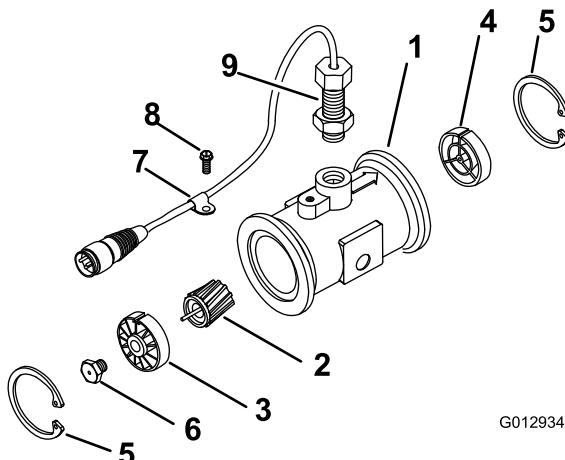

Figure 55
3. Remove the retainer ring on the upstream side (Figure 55).